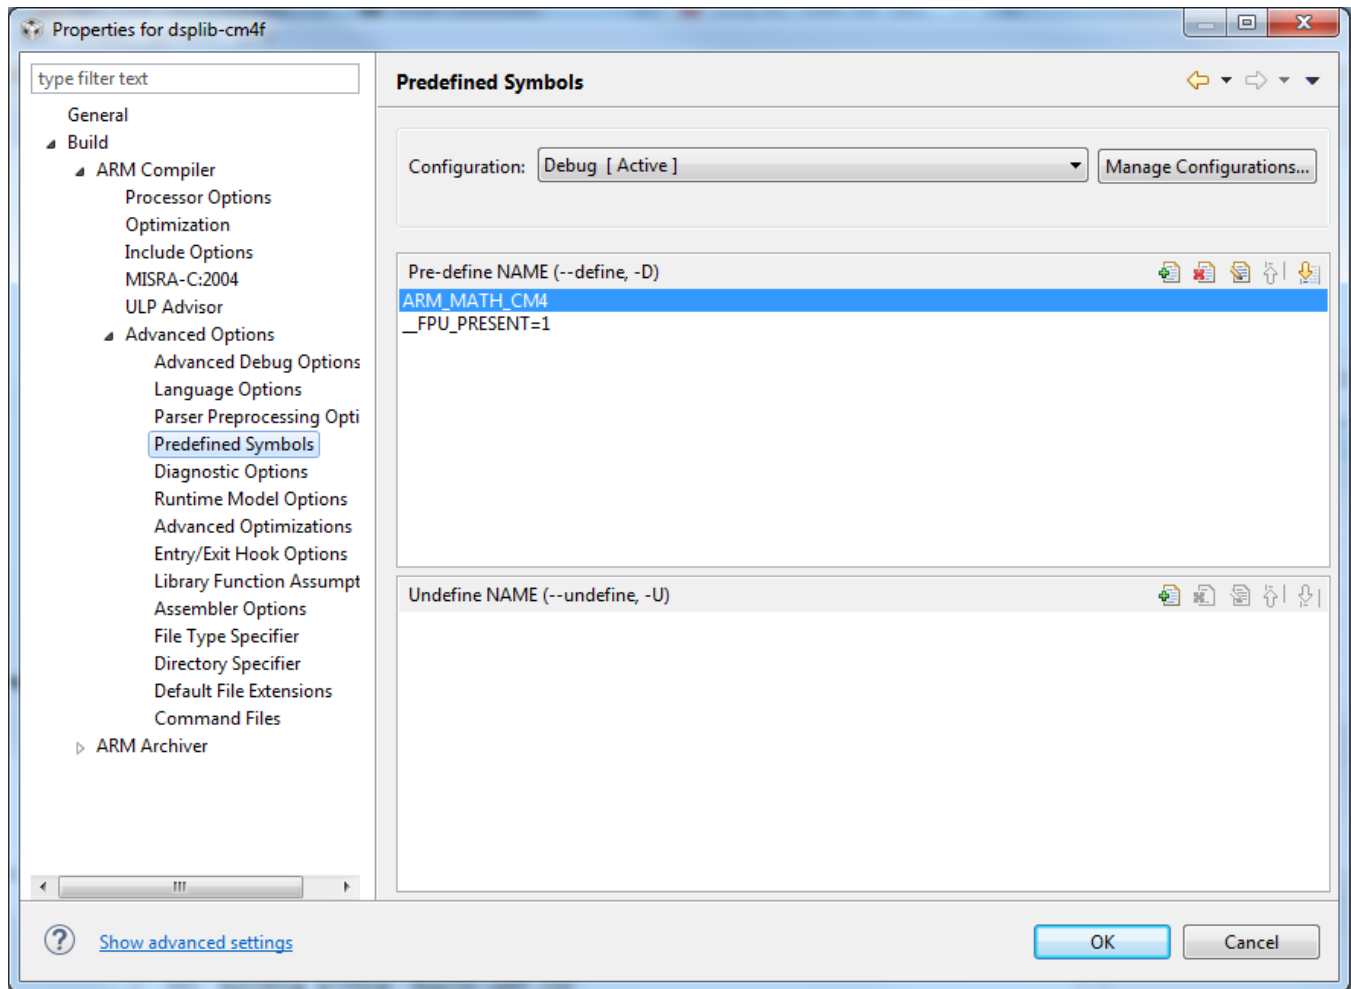

Figure 10. Adding Project Level #defines for the Processor Characteristics
9. Expand the Advanced Options menu again and select the Predefined Symbols panel. Create a symbol to tell the DSP library to use Cortex-M4 based math functions. Click the *Add...* button in the *Pre-define NAME (--define, -D)* area. In the *Enter Value* dialog box, type `ARM_MATH_CM4` into the *Pre-define NAME (--define, -D)* field and click **OK** (see Figure 10). Click the *Add...* button again type `__FPU_PRESENT=1` into the *Pre-define NAME (--define, -D)* field and click **OK**.